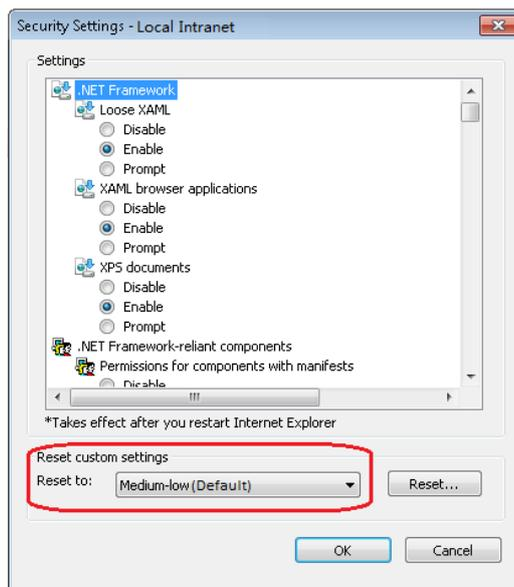

Figure 6-5 Security setting 2
2. In the window shown in Figure 6-4, choose **Trusted sites** and click the **Custom level** button to pop up the window shown in Figure 6-5.
3. In the window shown in Figure 6-5, set 'Medium-low' for the security level. Click the **Reset** button to finish **Reset custom settings**, at last, click **OK**.